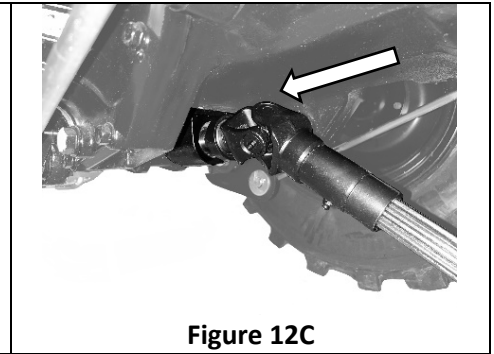

Figure 12C
11. Attach the quick-attach end of the PTO from the mower deck to the tractors PTO (figure 12C).